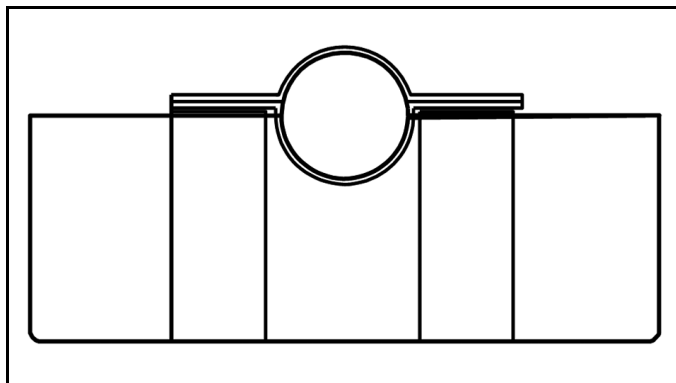
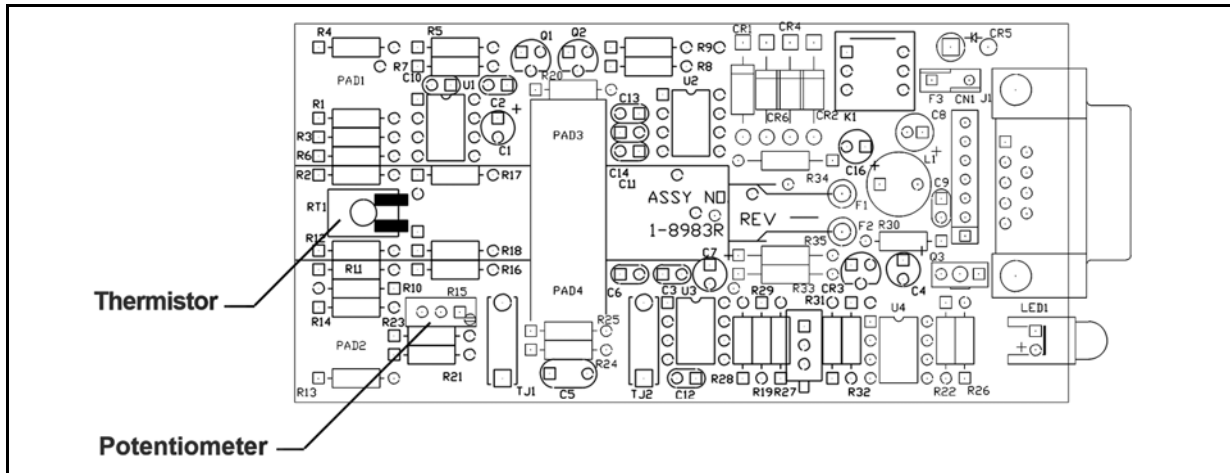

Figure 6-3: End of Tube View
Figure 6-5: PC Board Thermistor and Potentiometer
1. Install a new tube. Place a small amount of silicone heat sink compound between the thermistor (Figure 6-5) and tube, and then place it in position. The tube mounting bracket is slightly off-center. Be sure the tube is oriented so its center line is offset toward the board (Figure 6-3).
- d. Adjust the potentiometer, R15, (Figure 6-5) for a voltage reading of 3.222 V.